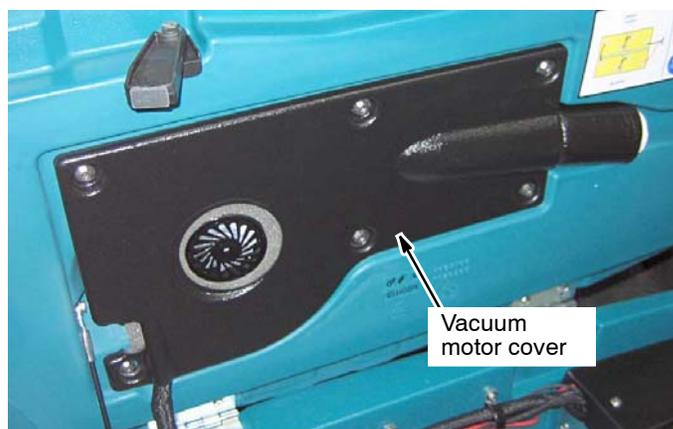

Fig. 16
- 14. Remove the vacuum motor cover and vacuum motor from machine (Figure 16).